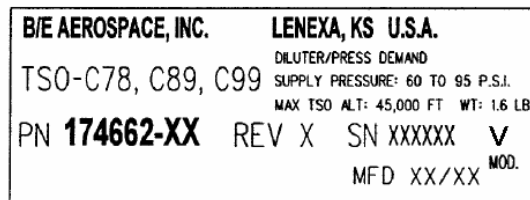

Figure 3
NOTE: Check the date on the crew mask to determine the manufacturing date (MFD). The manufacturing date format is MONTH/YEAR and is marked in the lower right hand corner of the label (refer to Figure 3 for location). The affected numbers are 08/07 through 02/08.
1. Mark the modified unit by turning the mask upside down to reveal the label. Mark the letter "V" above the word "MOD" on the label as shown in Figure 3 using "black" permanent ink, a decal, or replace the label as preferred.